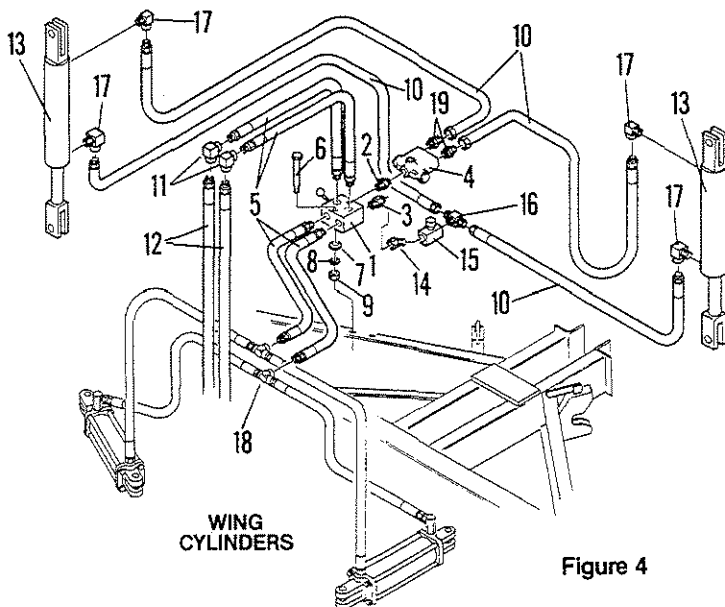

Figure 4
1. Assemble Double Selector Valve (1), $\frac{3}{4}$ " Connection Fitting (2), Adapter Fitting (3), 45° Elbow (14), Needle Valve (15) and Sequencing Valve (4) together as shown in figure 4.
2. Detach existing tractor hoses (12) from wing cylinder tees (18). Assemble hoses and fittings as shown in figure 4. Reattach tractor hoses to 90° elbows (11).
3. Attach the assembled Double Selector Valve (1) to the top rail of the main frame side brace using $\frac{3}{8}$ " hex bolts, flat-washers, lockwashers and hex nuts.